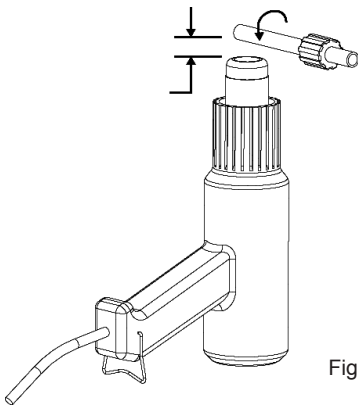

Figure 1
1. Set the hot air gun on "High". Hold the PFA tubing end flush with the heater edge and 1/2" to 3/4" above the heater (see Figure 1) and slowly rotate the tubing 360° for 25 seconds, or until a fine, clear line appears around the tubing. Note: It is very important to fully rotate the tubing over the heat source so all surface areas receive an equal amount of heat. Uniform heating is essential to making a good flare.